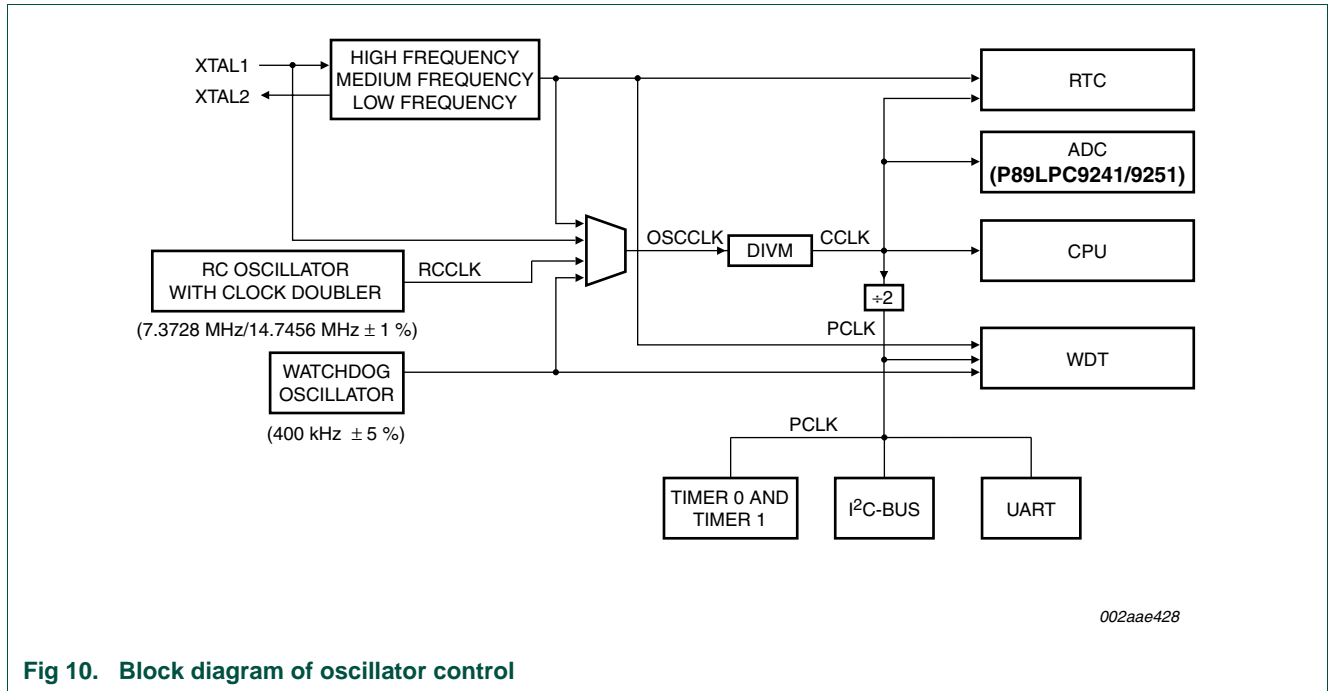

Fig 10. Block diagram of oscillator control
**OSCCLK** — Input to the DIVM clock divider. OSCCLK is selected from one of four clock sources and can also be optionally divided to a slower frequency (see Figure 10 and Section 2.10). **Note:**  $f_{osc}$  is defined as the OSCCLK frequency.